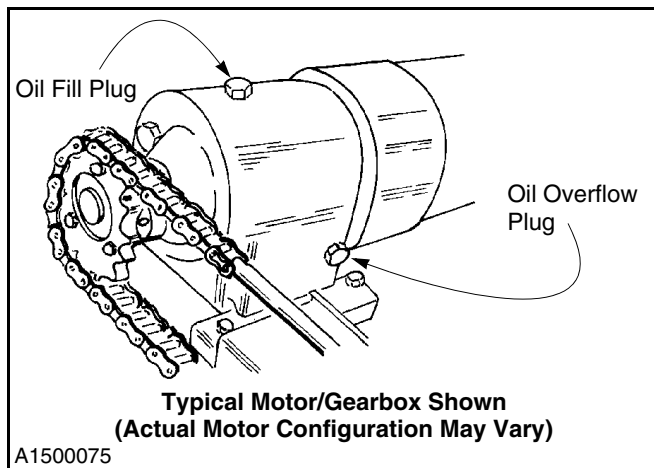

Figure 22
4. **Motor/Gearbox Assembly:** Check the gearbox oil level. Fill as required using the appropriate synthetic oil listed below. The oil in the gearbox does not need to be changed. However, it should be checked regularly at the overflow plug located on the lower section of the gearbox. (See Figure 22.)